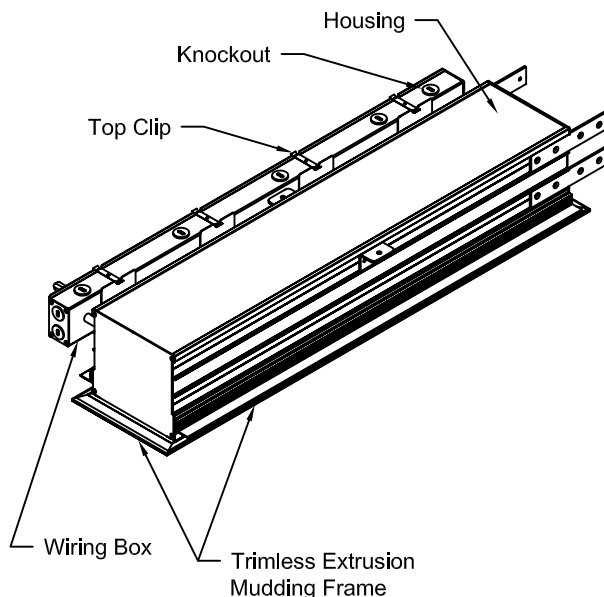
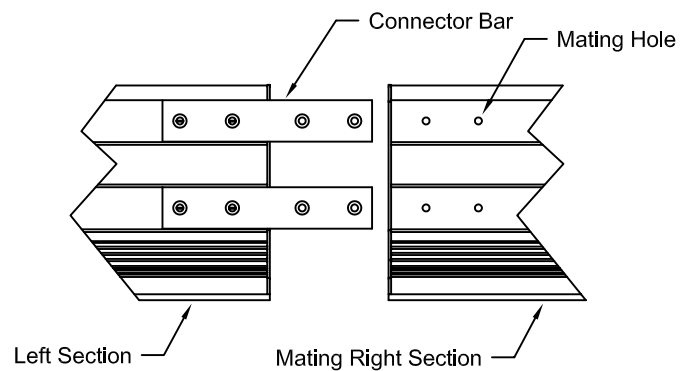

Figure 1
Figure 3
1. Locate Trimless Extrusion Mudding Frame on all Housings. See Fig. 1.
6. Align Connector Bar and Mating Section Holes. See Fig. 3.
1. Hang Housing(s) from Hanger Brackets located on sides of Fixture(s) using 1/4-20 Screw. See Fig. 1 and Fig. 3.
2. Connect Wiring Box to Electrical Service using Knockouts located at each end of Wiring Box and Knockout along top of Wiring Box as needed. See Fig. 1.
3. To remove Rear Access Panel(s) for inspection, lift Clips at Top and Bottom of Wiring Box. See Fig. 1 & Fig. 3.